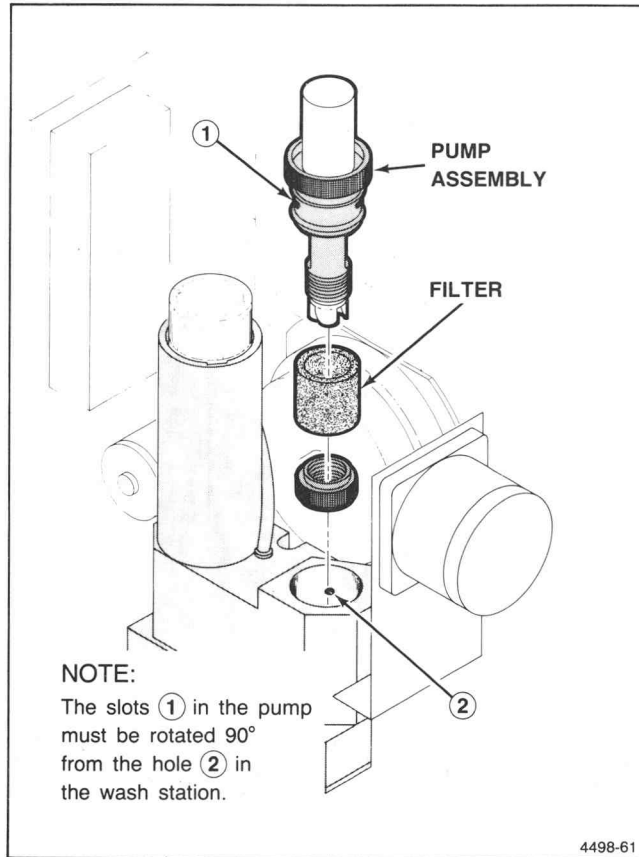

Figure 7-21. Head Washing Pump Filter Replacement.
An exploded view of the pump motor is shown in Figure 7-21.
3. Align the holes in the motor housing so that they are rotated 90 degrees from the output port. This relation is illustrated in Figure 7-21.